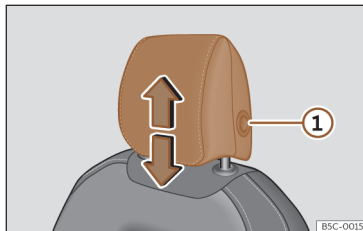
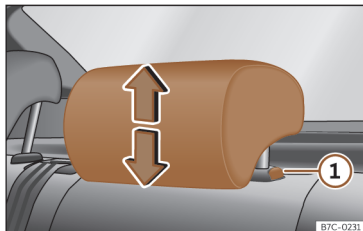

Fig. 107 Front seat: headrest adjustment.
Fig. 108 Rear headrest: headrest adjustment.
- Grab the sides of the headrests with both hands and push upwards to the desired position. To lower it, repeat the same action, pressing the ①»» Fig. 107 »» Fig. 108 button on the side.
- Press the side button»» Fig. 107 ① and remove the headrest.